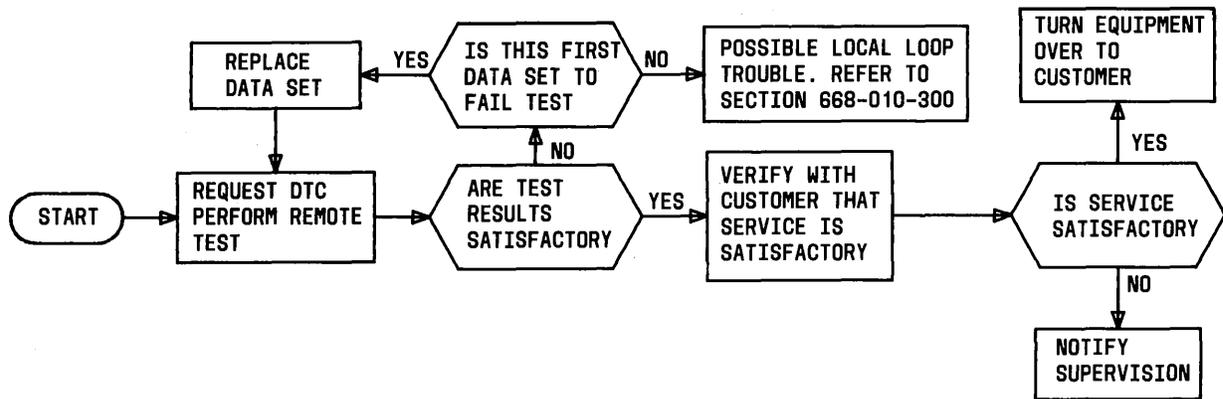

Fig. 2—Installation Test Sequence
**2.02** Refer to Fig. 2 for the sequence of tests to be performed to verify proper installation. The 921A DTS is not required for installation testing, but may be used if desired.